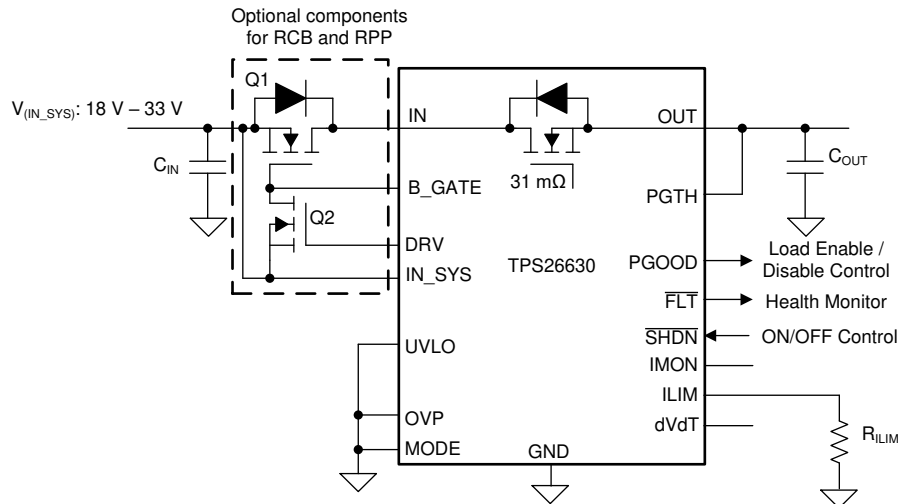

Figure 10-11. TPS26630 Configured for a Simple 24-V Supply Path Protection
With the TPS2663x devices, a simple 24-V power supply path protection can be realized using a minimum of five external components as shown in the schematic diagram in Figure 10-11. The external components required are: a N-Channel Power FET Q₁, a N-Channel signal FET Q₂ and a R_(LIM) resistor to program the current limit, C_(IN) and C_(OUT) capacitors.